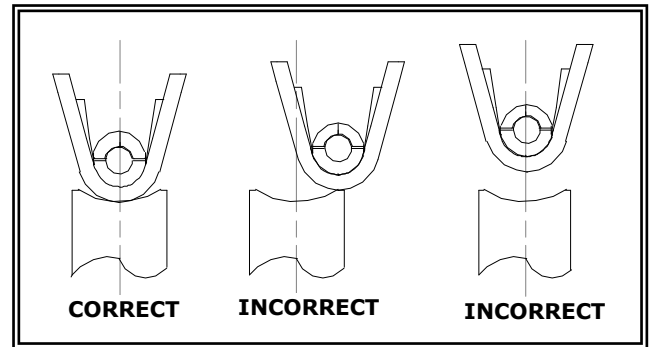

Figure 6
4. With hand pressure, slowly slide the locator to the correct position. See Figure 6.